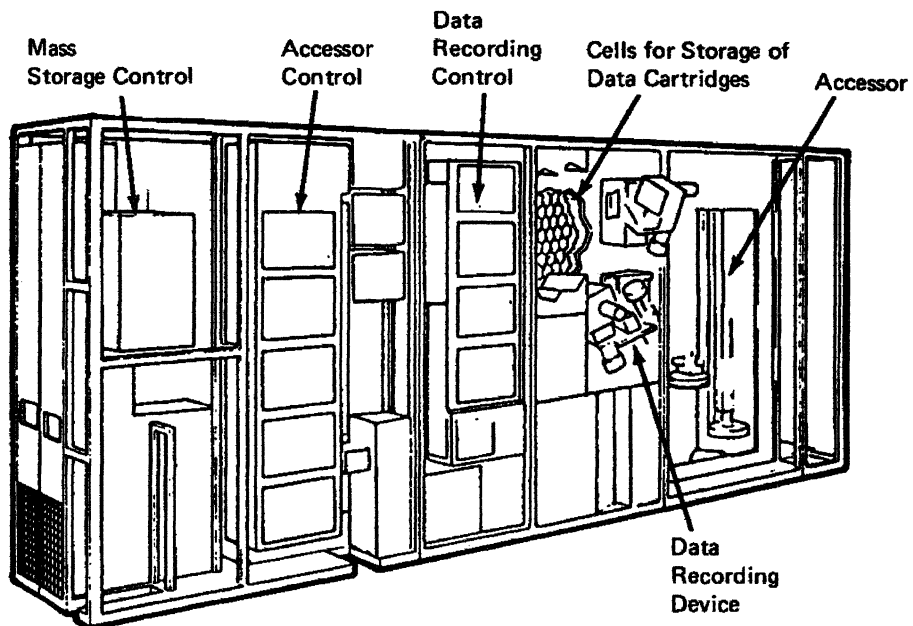

Figure 34. 3851 Mass Storage Facility Components
- 3851 Mass Storage Facility (MSF) (See Figure 34.)